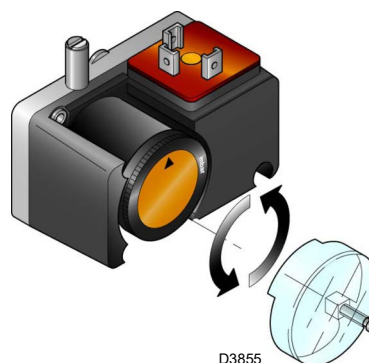

Fig. 32
- Adjust the pressure switch for the valve leak detection control device (PVP Kit)(Fig. 32 at page 36), if present, according to the instructions supplied with the Kit itself.
Adjust the pressure switch for the valve leak detection control device (PVP Kit) (Fig. 32), if present, according to the instructions supplied with the Kit itself.